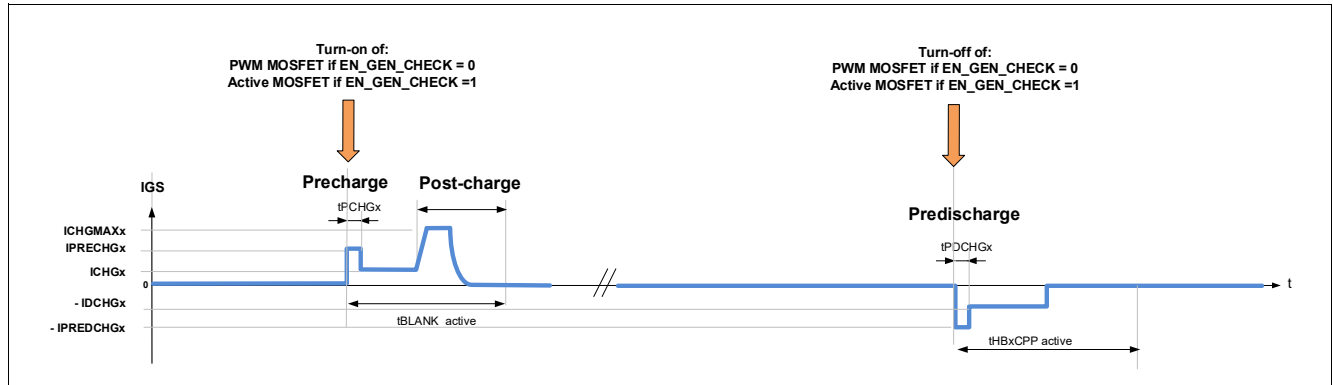

Figure 27 PWM overview - AGC = 10_B or 11_B, POCHGDIS=0 (post-charge enabled)
- **POCHGDIS** = 0: After the charge phase, the control signal for the charge current of LSx is increased by one current step at every bridge driver clock cycle (**BDFREQ**) to ICHGMAXx. Refer to **Figure 27**